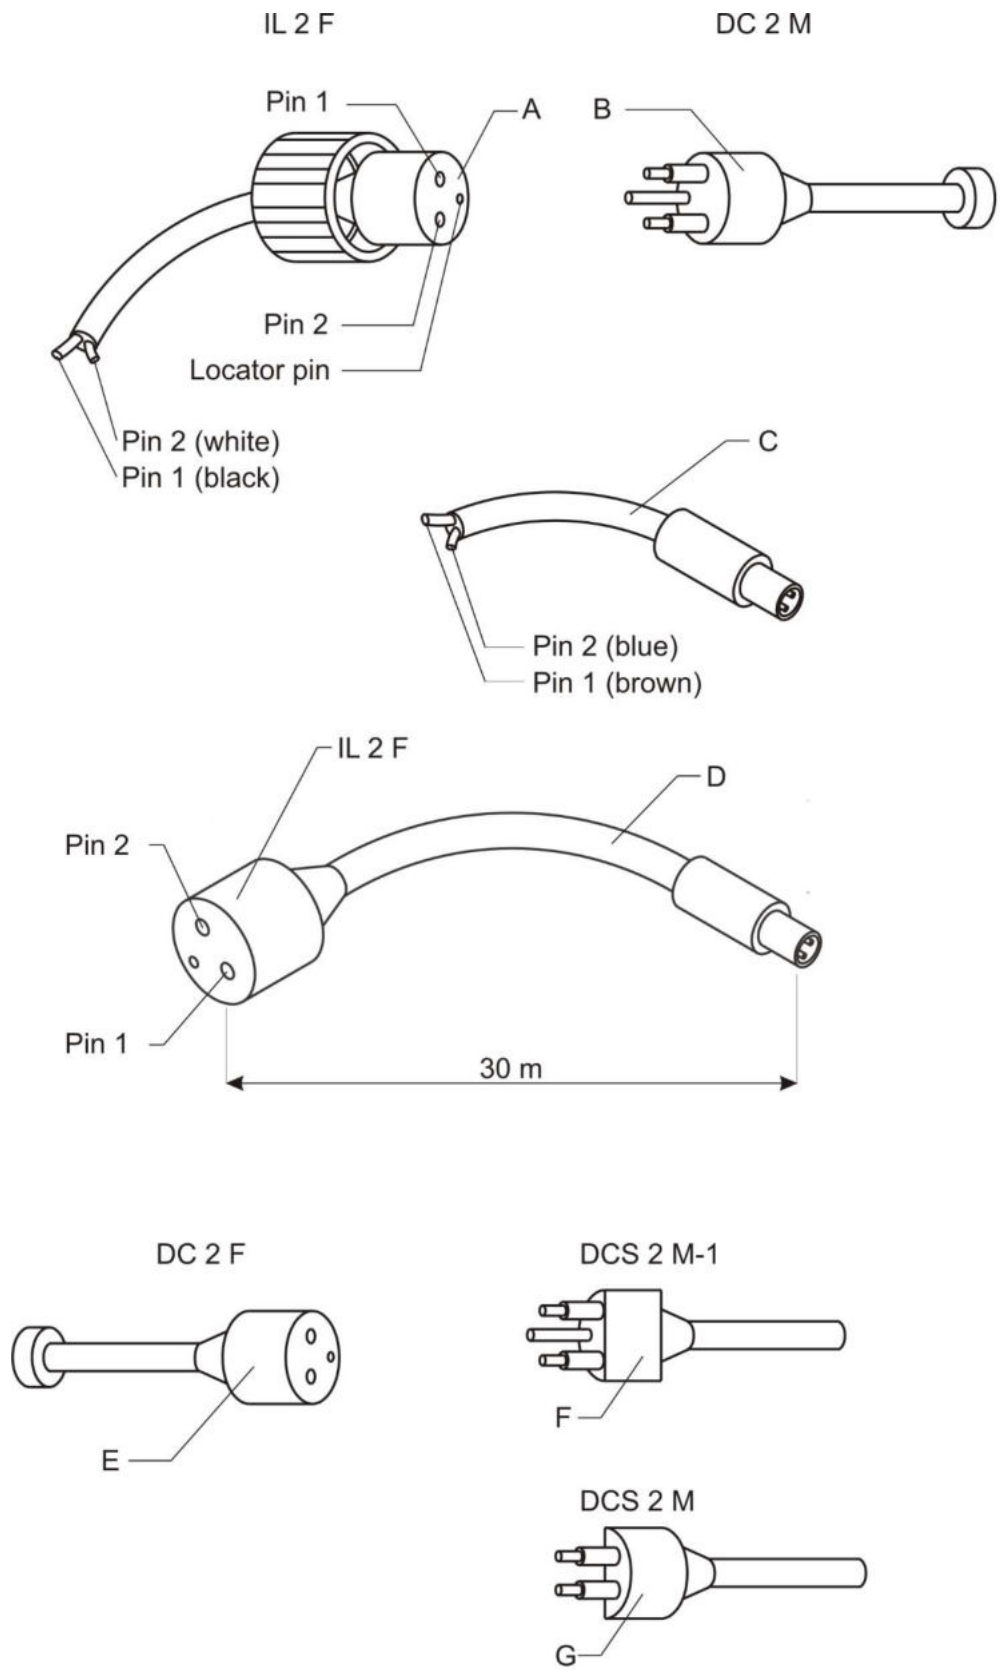
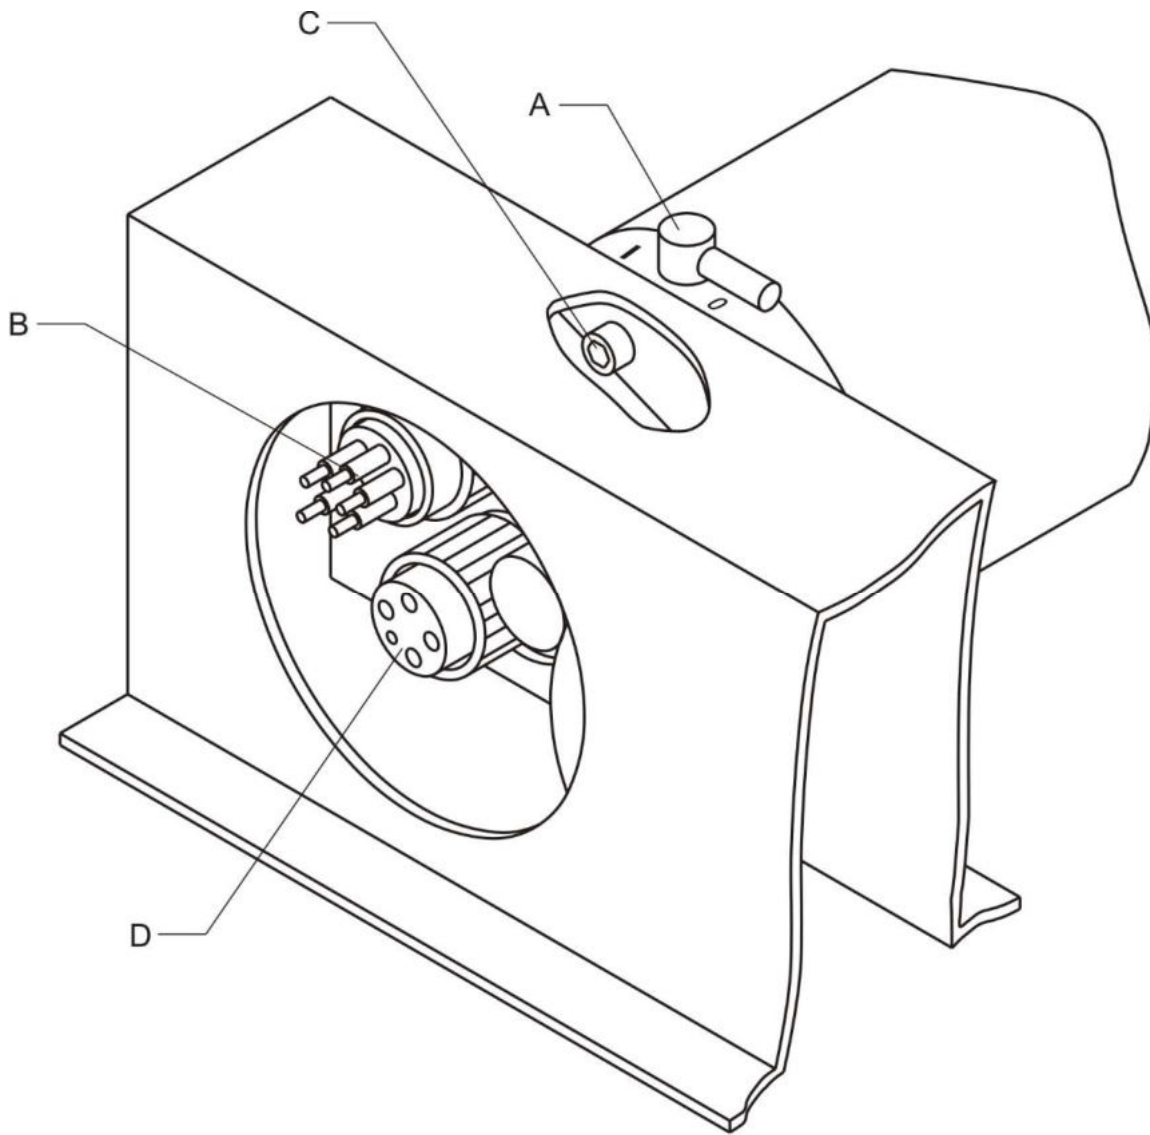
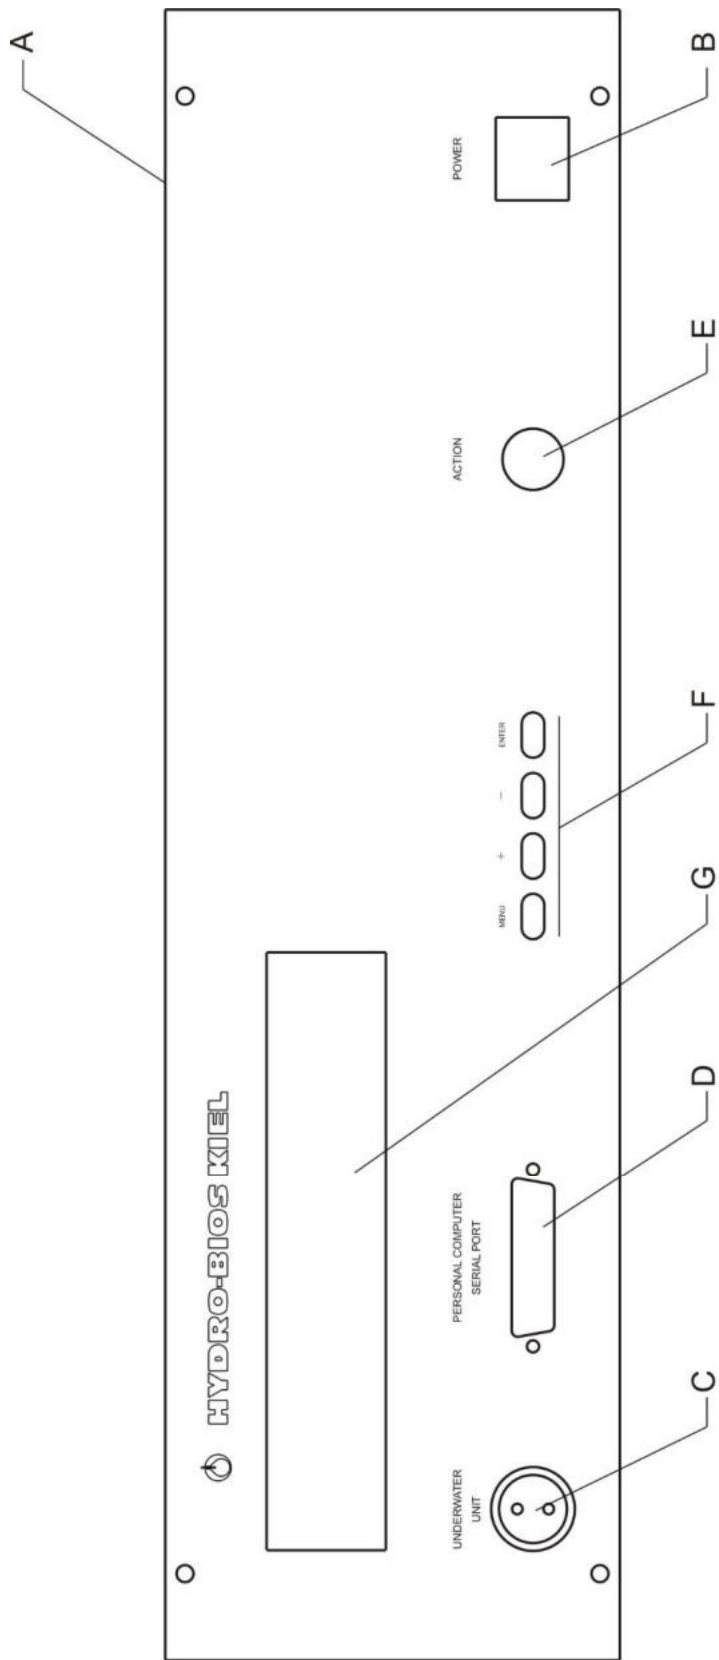

Fig 1
Fig 2
Fig. 4
10. To avoid corrosion at the contacts of the connector SUBCONN BH 5 M at the Motor Unit (Fig. 2 B): Slightly grease the pins with pin lubricant and protect them by plugging the dummy SUBCONN DC 5 F onto it.
11. To avoid corrosion at the contacts of the connector SUBCONN IL 2 F (Fig. 1 A) of the single or multi conductor cable: Slightly grease the pins of the corresponding dummy SUBCONN DC 2 M (Fig. 1 B) with pin lubricant and plug it into the connector of the single or multi conductor cable.
5. When the Underwater Unit is back on board switch off Motor Unit (Fig. 2 A) and Deck Command Unit (Fig. 4 B).
1. Switch the lever switch at the Motor Unit into position **O** (Fig. 2 A).
2. Disconnect the cables for the Electronic Flowmeters from the connector SUBCONN BH 4 F (Fig. 2 D).
3. Unscrew the 3 hexagon socket screws M 6 which are located inside the gear box (Fig. 2 C).
1. Connect the test run cable to the dismantled Motor Unit (with Battery Housing connected) (Fig. 1 D, Fig. 2 B).
2. Connect the test run cable to the Deck Command Unit (Fig. 4 C).
3. Switch on the Deck Command Unit, the main switch (Fig. 4 B) is illuminated, the display indicates: **UNDERWATER UNIT: NO DATA**
4. Switch lever switch at the Motor Unit into position I (Fig. 2 A), the display indicates the MAIN SCREEN (see DECK COMMAND UNIT, page 10).
9. The Motor Unit is synchronized and ready for mounting. The display indicates **NET 0**. Switch lever switch at the Motor Unit into position **O** (Fig. 2 A).
12. Remount the Motor Unit without distorting the position of the steering cylinder. Remount the 3 hexagon socket screws M 6 from the inside of the gear box (Fig. 2 C). Care for a small slackness between gearwheel of the Motor Unit and the gear wheels of the gear box.
13. Slightly grease the pins of the cables for the Electronic Flowmeters with pin lubricant and connect them to the connector SUBCONN BH 4 F at the Motor Unit (Fig. 2 D).
1. Upon switching on the Deck Command Unit, the main switch is not illuminated (Fig. 4 B), the display remains empty:
1. Carry out a FIRST TEST RUN (page 14) by using the test run cable (Fig. 1 D). In case of success the fault has to be located in the cable connection from Deck Command Unit to Underwater Unit.